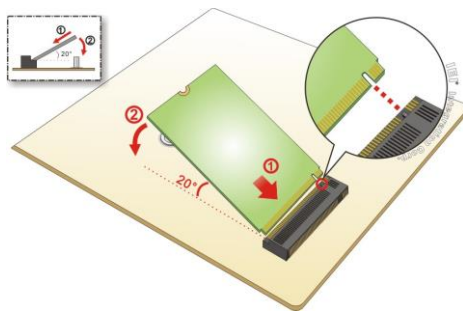

Figure 3-4: Inserting the WLAN Module
Step 3: Line up the notch on the WLAN module with the notch on the slot. Slide the WLAN module into the slot at an angle of about 20° (Figure 3-4).